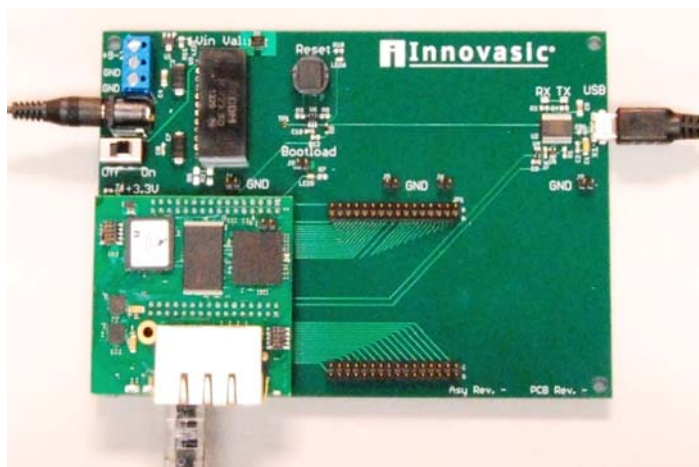

Figure 5. Module and Baseboard Connection
The following steps detail the hardware setup process. Figure 5 shows the completed hardware setup with proper baseboard and module connections. The evaluation kit comes with the jumpers installed and there is no need to set any switches. The UART interface, parallel interface, or Ethernet interface personality modules are not used in this setup procedure.
1. Connect the module to the baseboard as shown in Figure 5.